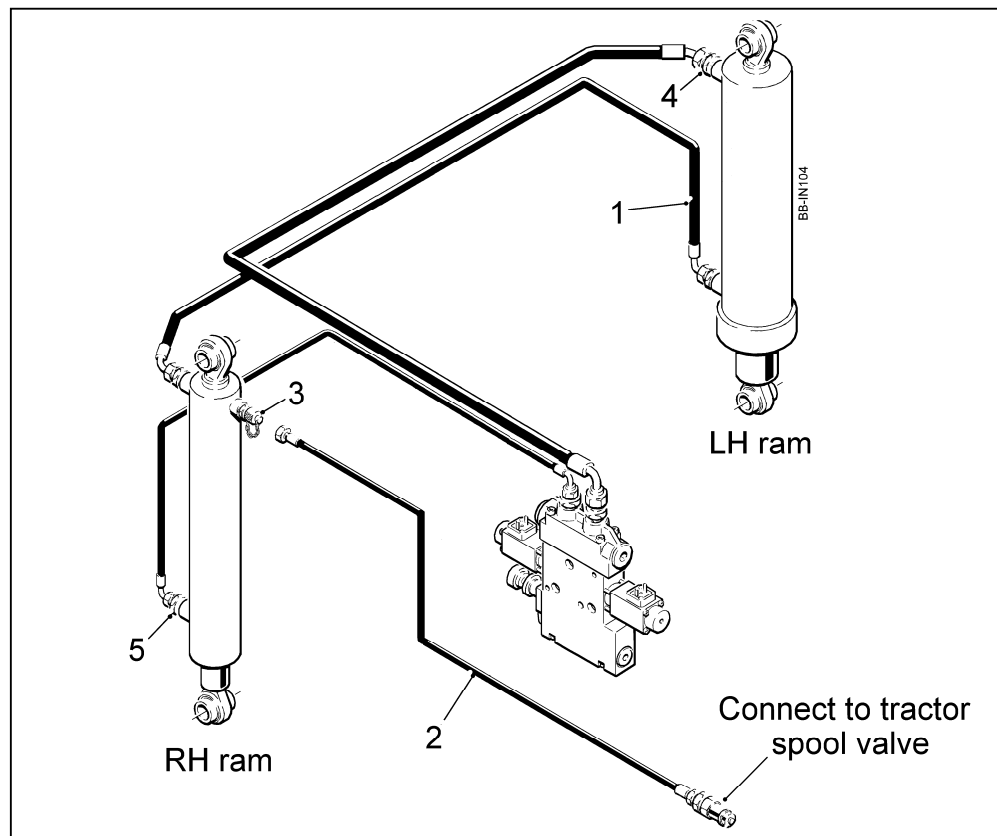

Fig. 24
The two depth rams are linked together by a balancing hose (item 1, fig. 24). The hose diverts oil from the bottom of the large LH ram to the top of the small RH ram and vice versa. In this way, the rams reach open and closed centres at the same time irrespective of the load distribution within the hopper. The circuit between the two rams must contain the correct volume of oil for the rams to operate evenly. The balancing circuit is preset at the factory but after a period of service it may need to be reset due to leakage or replacement of rams and hoses.
2. Connect a hydraulic hose (item 2, fig. 24) from the tractor spool valve to the balancing circuit 1/8" BSP filler port (item 3, fig. 24).
3. Loosen the pressure hose connections (item 4 & 5, fig. 24) enough to allow oil to escape.
5. Loosen the filler port (item 3, fig. 24) enough to allow oil to escape and, using the tractor 3-point linkage, gently lower the planter onto its wheels. The excess oil within the balancing circuit will escape through the loosened port.
6. Continue lowering the planter until both rams are fully closed, then retighten the filler port (item 3, fig. 24) to seal the circuit. The balancing circuit now contains the correct volume of oil.
7. Finally, retighten the pressure hose connections (item 4 & 5, fig. 24) and operate the depth control valve five or six times to remove air from the hydraulic system.